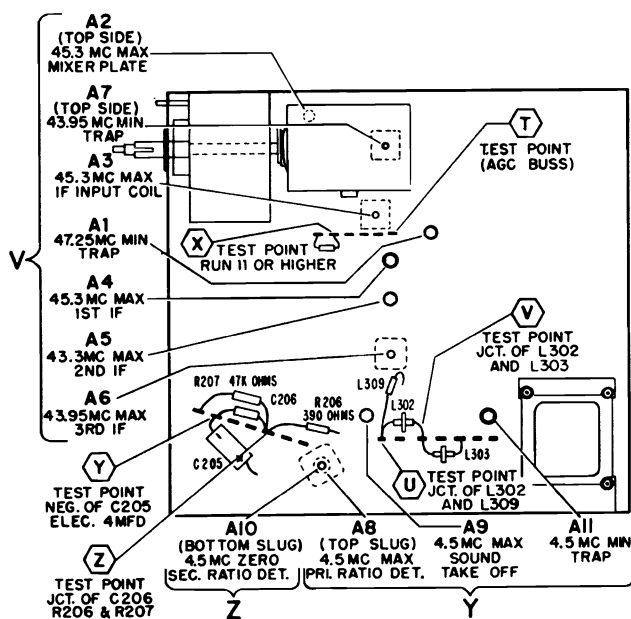

Figure 11. Bottom View of Chassis Showing Test Point Connections and IF Alignment Data.
- Connect bias supply; negative to test point "T", see figure 11, positive to chassis. A 3 volt bias supply is required for all steps below.